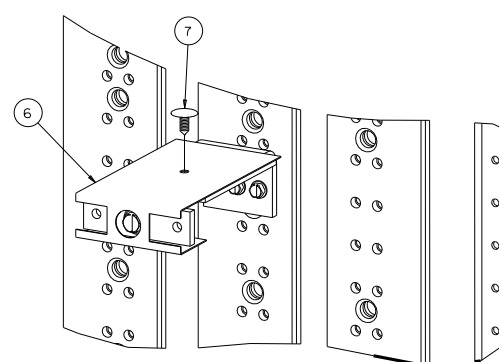

Figure 5
6. Reference fig. 5 - Attach the barrier (item 6) to B-phase strap. Insert the christmas tree rivet (item 7) through the 0.25" diameter hole in the barrier and into the 0.156" diameter hole in the B-phase strap. Push for a tight fit.